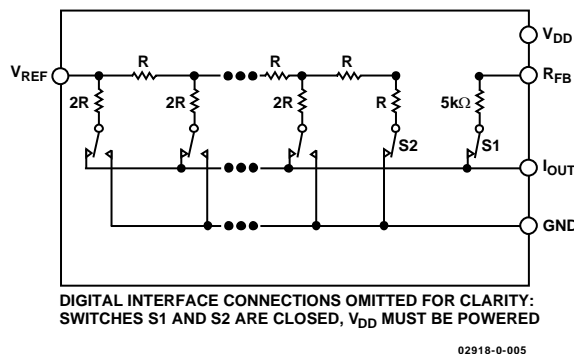

Figure 17. Equivalent R-2R DAC Circuit
The DAC architecture uses a current-steering R-2R ladder design. Figure 17 shows the typical equivalent DAC. The DAC contains a matching feedback resistor for use with an external I-to-V converter amplifier. The RFB pin is connected to the output of the external amplifier. The IOUT terminal is connected to the inverting input of the external amplifier. These DACs are designed to operate with both negative or positive reference voltages. The VDD power pin is used only by the logic to drive the DAC switches on and off. Note that a matching switch is used in series with the internal 5 kΩ feedback resistor. If users attempt to measure the RFB value, power must be applied to VDD to achieve continuity. The VREF input voltage and the digital data (D) loaded into the corresponding DAC register, according to Equation 1 and Equation 2, determine the DAC output voltage.